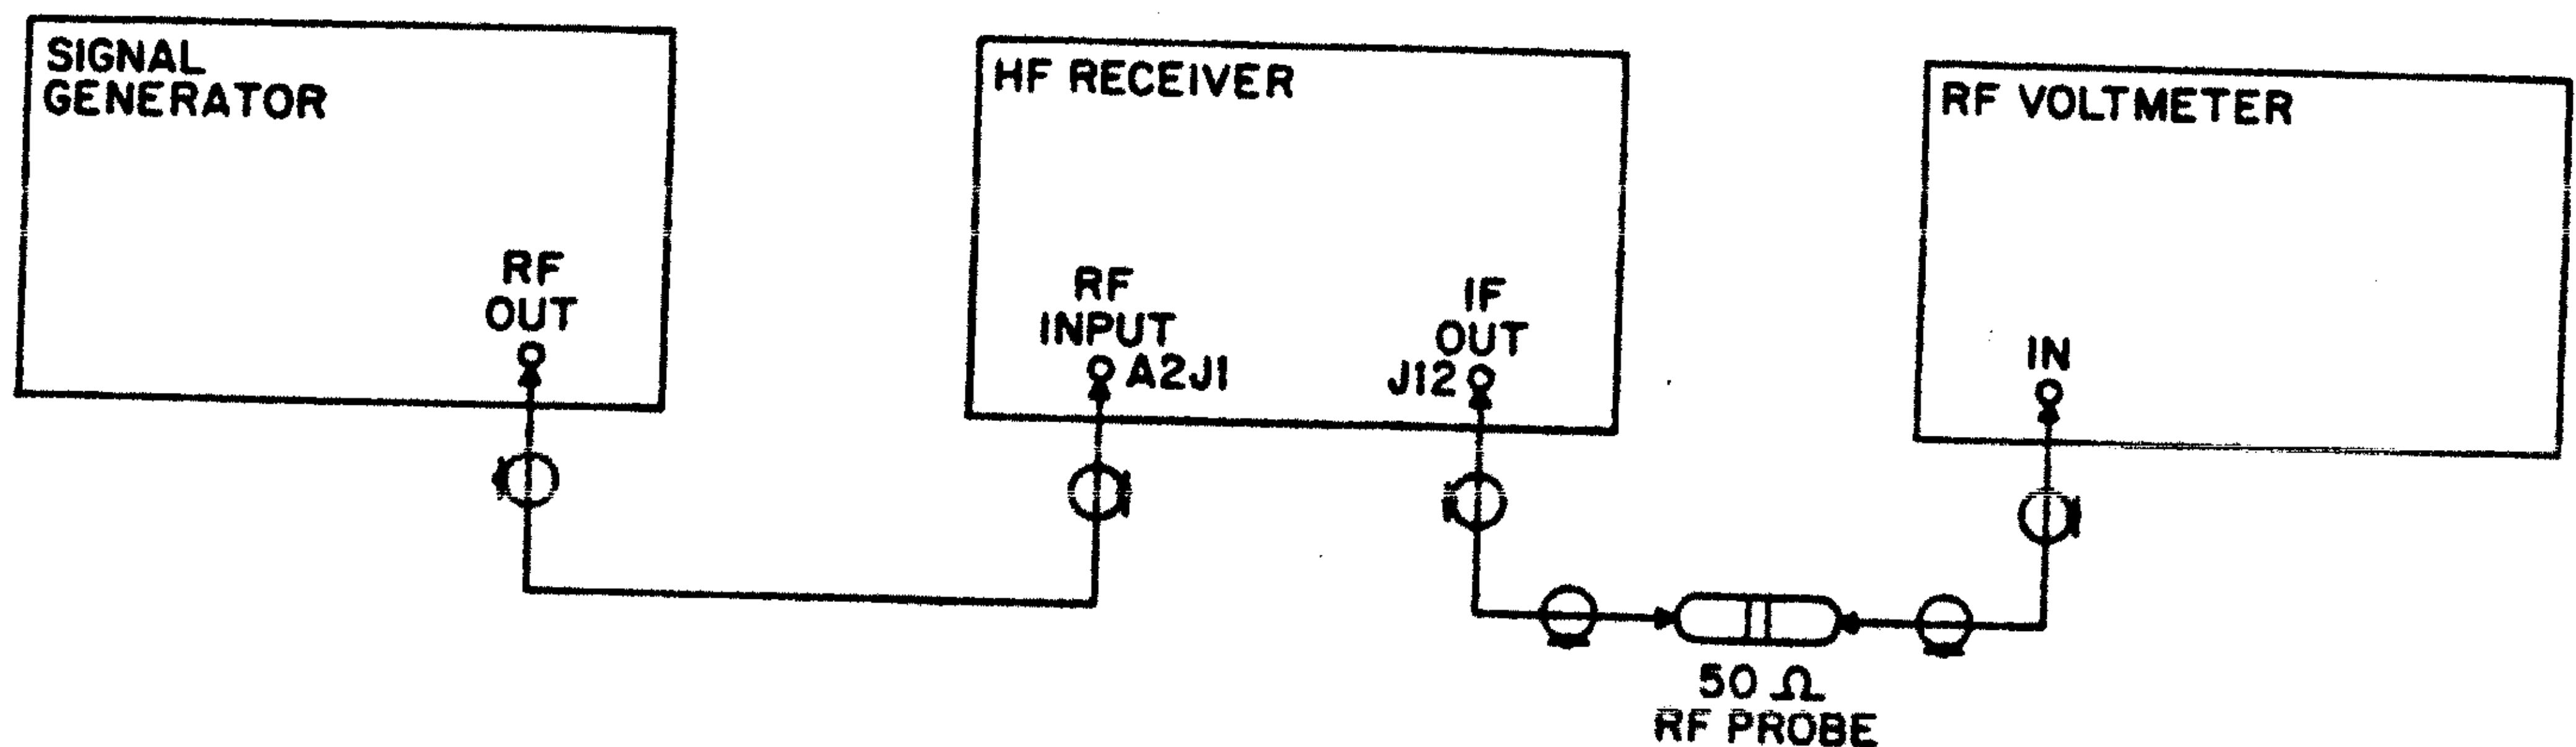

Figure 4-3. Input Converter Alignment Test Setup
1. Deenergize the receiver and loosen the two (2) captivated screws holding the A3 module to the chassis. Pull the A3 module out and remove its cover. Connect test equipment as shown in Figure 4-3. Be careful that Input Converter does not short to the adjacent power supply circuitry.